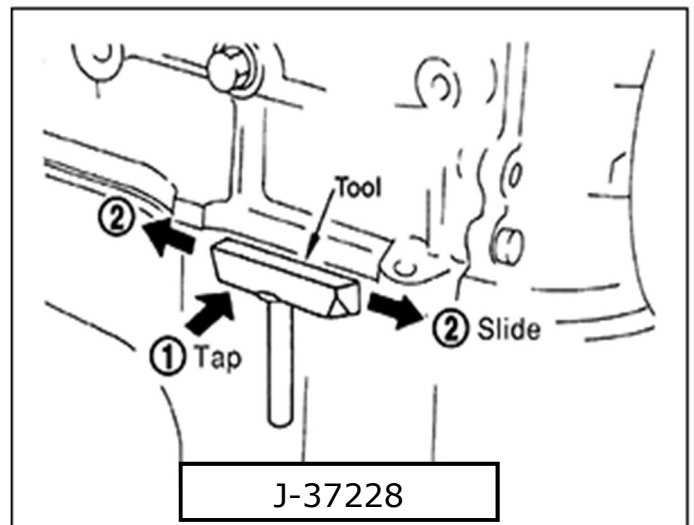

Figure 3
- Separate lower engine oil pan from the upper engine oil pan using (J-37228) (Figure 3)